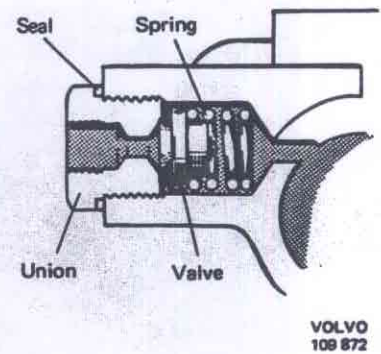

Fig. 52-21. Valves
7. Fit the spring, valve, seal and plug for the output connections in their places, see Fig. 52-21.